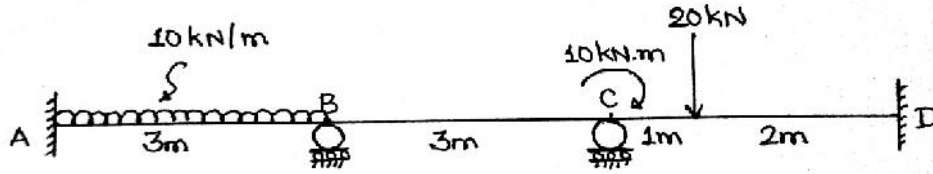

Figure 2
B) Explain the types of non-linearity. Also state the assumptions for a non-linear analysis. (05)
C) Obtain the combined joint load vector,  $A_C$  for the continuous beam as shown in the **Figure 2**. (05)